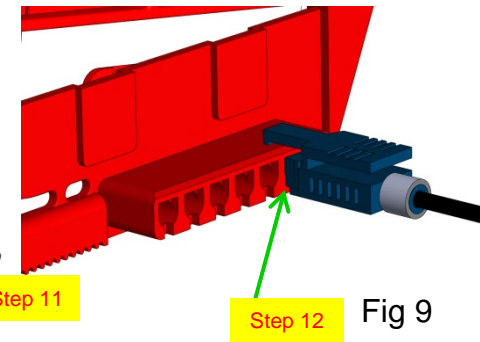

Fig 9
14.The connector should be seated flush as shown in (Figure 9). Hold "IN" the VL connector while cutting to insure proper cut position [flush with the end of the connector].